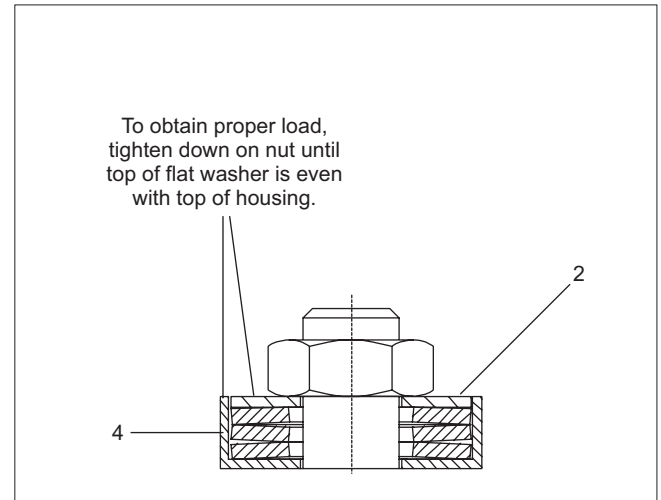

Figure 6 Disc spring stack detail shown installed
2. Spring stacks in each housing contain an odd number of disc springs. Refer to appropriate kit number for specific quantities. Springs must be stacked as shown in (Figure 6).